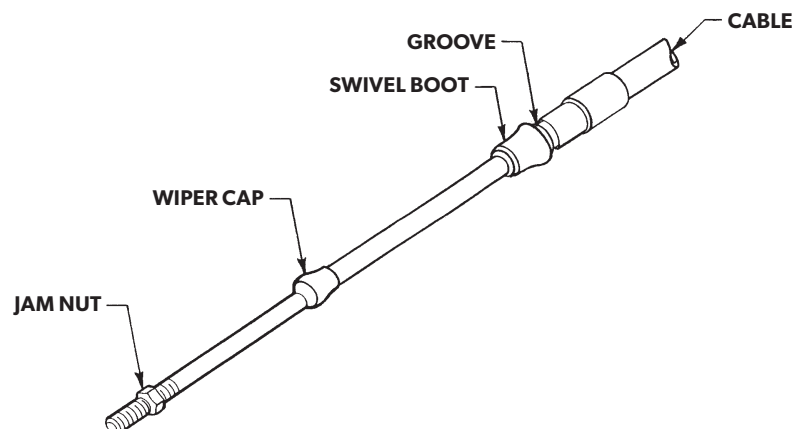

Figure 1.
1. Remove jam nut, wiper cap, and swivel boot from one end of cable (see figure 1). Save jam nut and wiper cap for re-use.